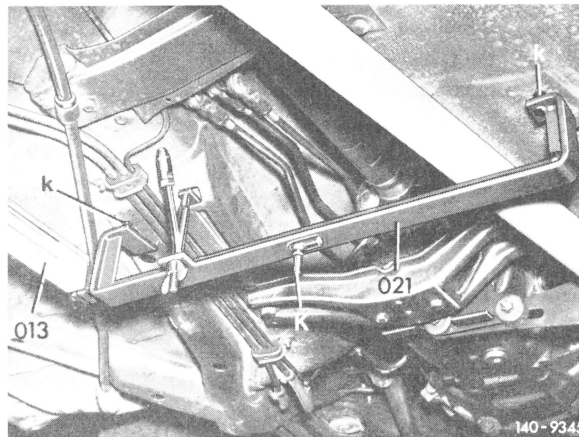
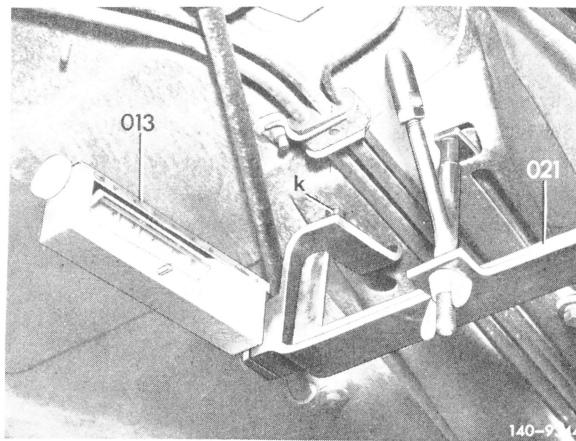

Fig. 6
Fig. 7
2 On Models 114, 115, position bridge 021 against frame floor (Fig. 6) and align to vertical position by means of spirit level (013) (Fig. 7).